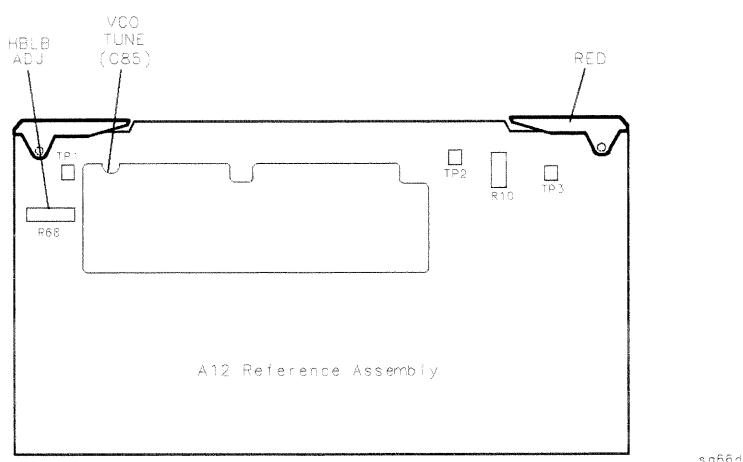

Figure 3-23. High/Low Band Adjustment Locations
- a. Adjust the VCO tune (see Figure 3-23) to position the left half of the trace to 0 ± 125 mV. This is a very sensitive adjustment where the trace could easily go off of the screen.
- b. Adjust the HBLB (see Figure 3-23) to position the right half of the trace 125 to 175 mV (about 1 to 1.5 divisions) higher than the left half.